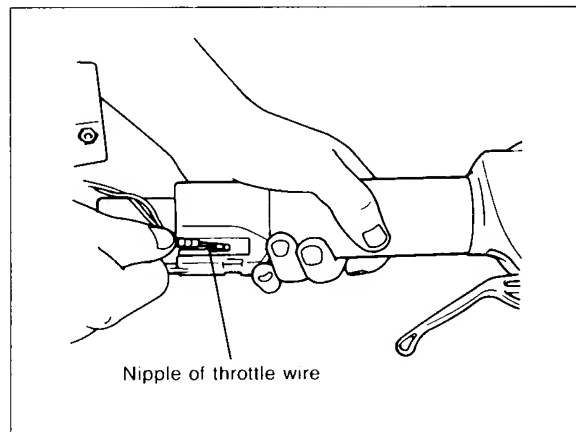

Fig. 6
1. Insert the nipple of the throttle wire through the square hole in the grip until it fits into the square hole in the moving part which is inside the grip. It should move when the throttle lever is squeezed. (Fig. 6)
2. Insert the nipple of the throttle wire through the square hole in the grip until it fits into the square hole in the moving part which is inside the grip. It should move when the throttle lever is squeezed. (Fig. 6)